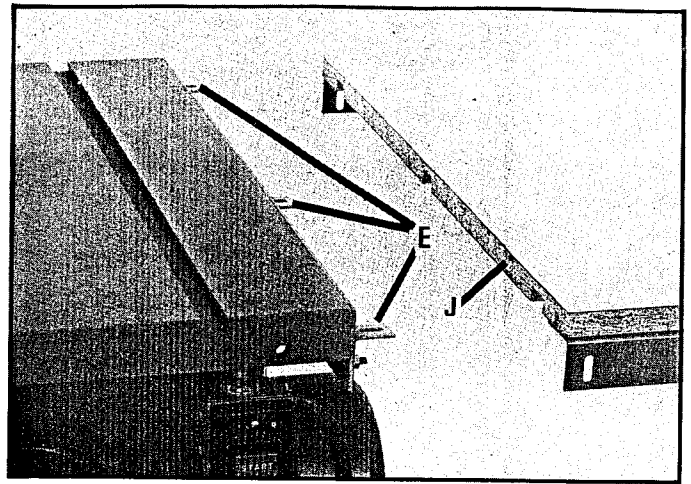
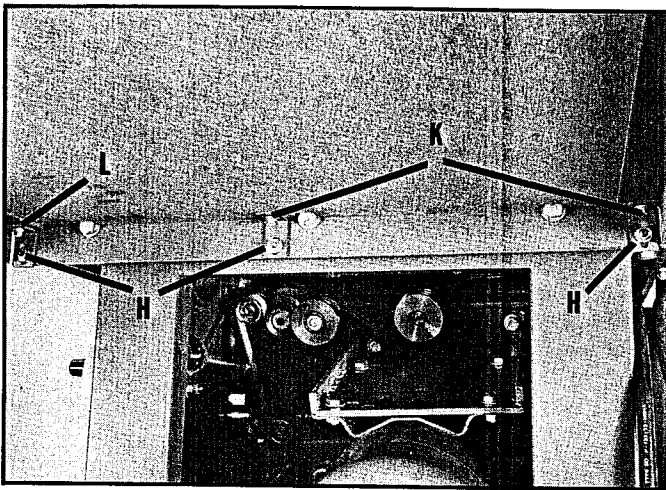
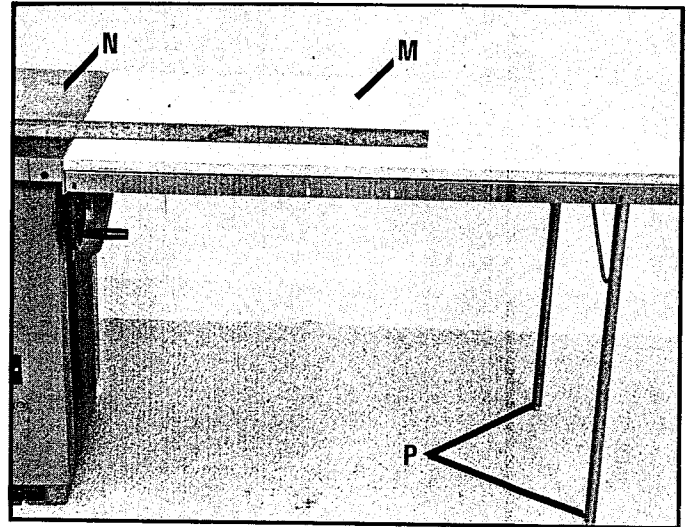

Fig. 23
Fig. 24
Fig. 25
6. Assemble the table (J) to the three table brackets (E) Fig. 23, using three #14 x 3/4" washer face screws (K) and (L) Fig. 24. NOTE: The two screws (K) Fig. 24, should be run in tight. Do not fully tighten screw (L).
7. Using a straight edge, make certain the table surface (M) Fig. 25, is even with the saw table (N). IMPORTANT: Front edge of table (M) must be flush with or slightly behind front edge of saw table (N). Tighten three nuts (H) Fig. 24.
8. With the straight edge across the saw table (N) and the Unifence table (M), as shown in Fig. 25, adjust the two leveling screws (P) so that the Unifence table (M) is level with saw table (N)